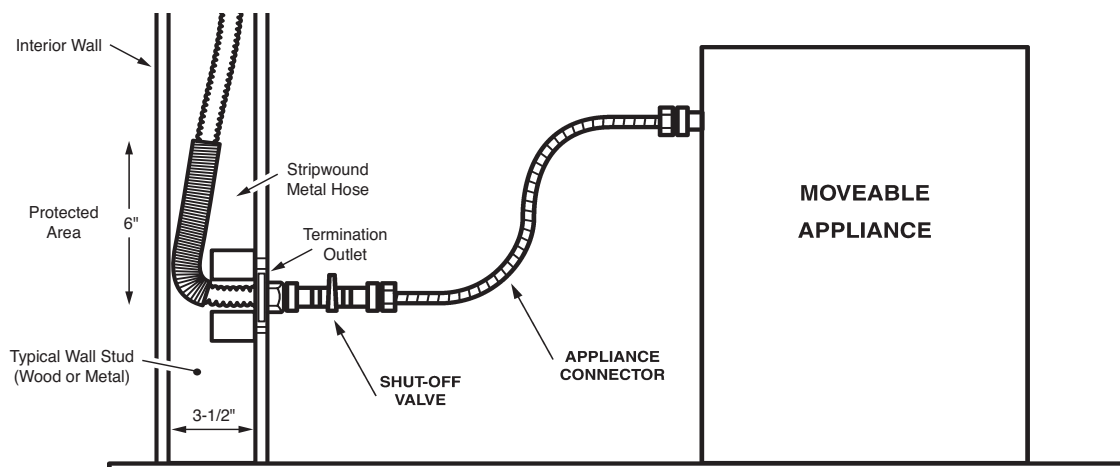

Figure: 4-28
1. MOVABLE APPLIANCE CONNECTIONS (SUCH AS RANGES AND DRYERS) SHOULD BE MADE USING APPROVED FLEXIBLE APPLIANCE CONNECTORS. (**See Figure 4-28**). See also recessed wall box next page.